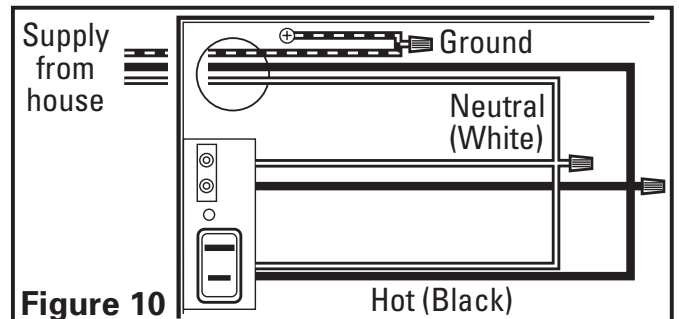

Figure 10
- 2a. From where you have access to inside the fan's junction box, connect the one white wire from the house to both the white wire from the fan's light receptacle and the white wire from the fan's exhaust receptacle. Connect the black wire from the wall switch to both the black wire from the fan's light receptacle and the black wire from the fan's exhaust receptacle. Connect the ground wire from the house to the green wire from the fan's grounding screw (**Figure 10**). Use approved methods for all connections.